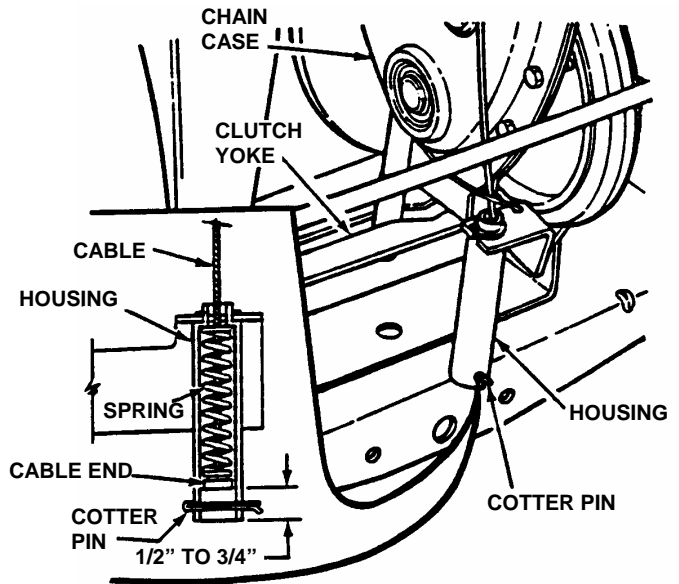
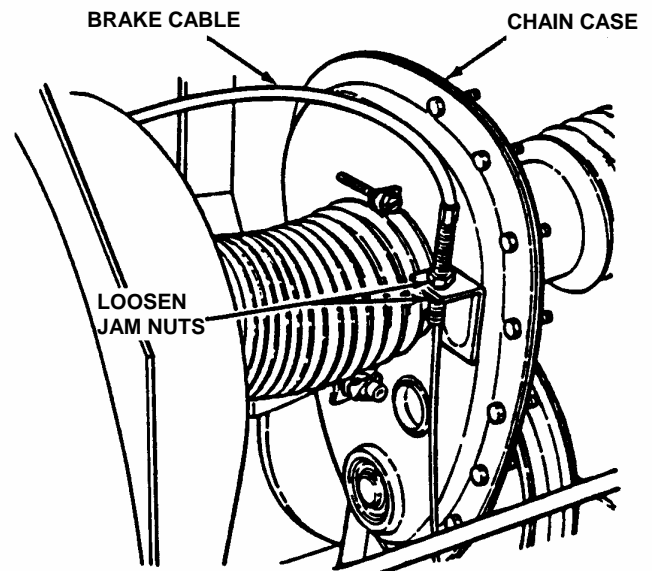

FIGURE 4.8
FIGURE 4.9
3.5.5. Clutch Yoke (See Figure 4.8).
5. Measure the distance between end of clutch/brake cable and bottom of housing. Measurement should be no less than $1/2$ " and no greater than $3/4$ ". See Figure 4.8.
6. If measurement is less than $1/2$ " or greater than $3/4$ ", loosen the two jam-nuts. See Figure 4.9. Hold the clutch/brake cable to the chain case bracket.
7. Adjust cable up or down using the jam-nuts to obtain a distance of $1/2$ " to $3/4$ " between end of clutch/brake cable (adjustment shown in inset of Figure 4.8) and bottom of housing. See Figure 4.9.
5. Move transmission shift lever to the neutral (N) position.
6. Rotate clutch yoke (clutch yoke shown in Figure 4.8) out with your hand and work belt between drive disc and rubber driven disc.